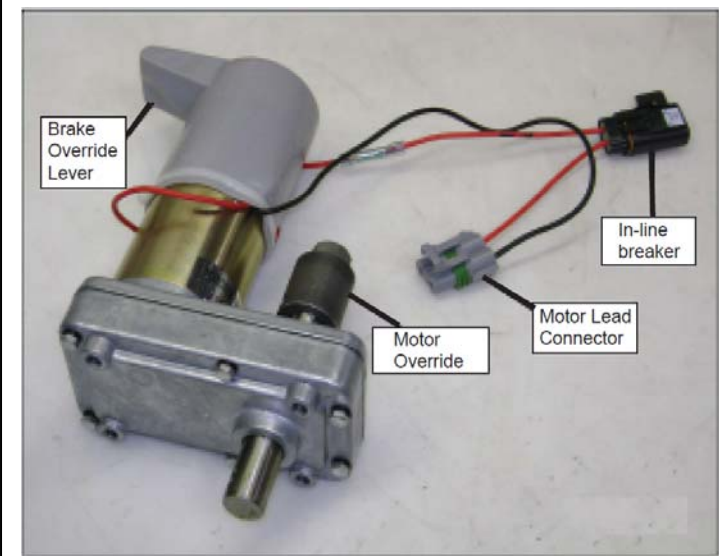

Figure 2
2. Disconnect the motor leads at the connector (see Figure 2, page 2).
4. Locate the manual override on the output shaft of the motor (see figure 2, page 2).